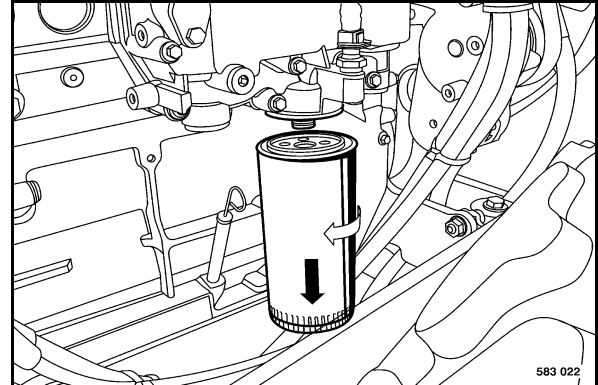

Fig. 137
- Thoroughly clean the outside of the filter cartridge (Fig. 137).